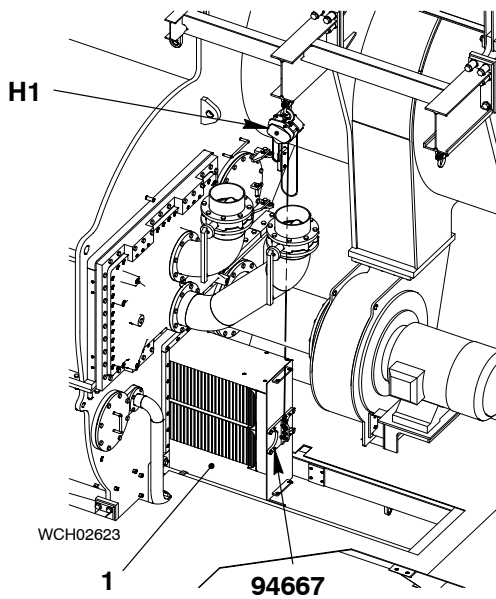

Fig. 12
- 4) Operate the manual ratchet (H4) to move the water separator (1) to the position shown in Fig. 12.
- 5) Remove the chain blocks (H1, H2 Fig. 12) from the water separator (1).
- 6) Remove the tool (94667) from the top of the water separator (1).
- 7) Attach the chain block (H1) to the tool (94667) on the front of the water separator (1).